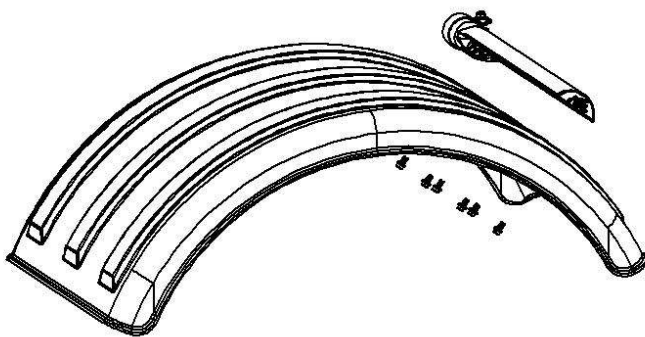

Figure 17
- a. With the bracket separated from the truck, install six 5/16" x 5/8" bolts and fender washers through the fender and into the bracket. **Turn each bolt approximately 2 full turns. Do not fully tighten.** See Figure 17 below.